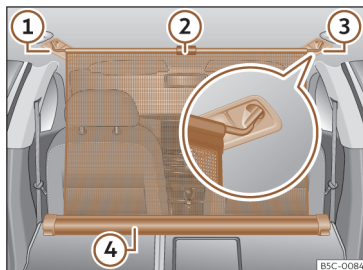

Fig. 192 In the boot: net partition hooked into the rear seat backrests.
- Pull up handle >>> **Fig. 192 ②** to remove the net from the casing >>> **④**.
- Hook in the net partition on the right or left side >>> **Fig. 192 ③** (magnified image).
- Hook in the net partition into the housing on the other side >>> **Fig. 192 ①** by pulling the rod.
The net partition is properly assembled when the T-shaped ends are firmly secured in the corresponding housings >>> **Fig. 192 ③** and **①**.
- Roll up the net into the casing >>> **Fig. 192 ④** lowering it with your hand.